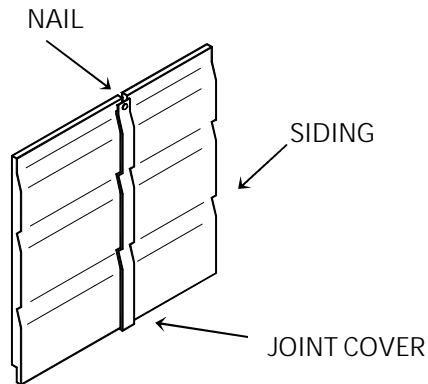

Figure 1
1. Minimum one nail within 1/2" of the top of the joint cover, centered between the siding courses so as not to penetrate either siding. See Figure 1.